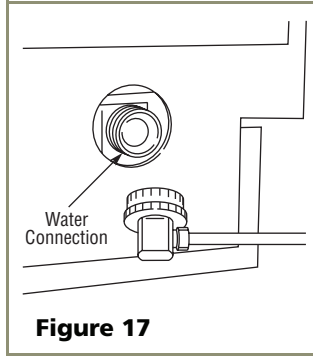

Figure 17
3. Carefully bend the water supply line into position and connect the line to the solenoid valve (see **Figure 17**). Avoid kinking the water supply line.